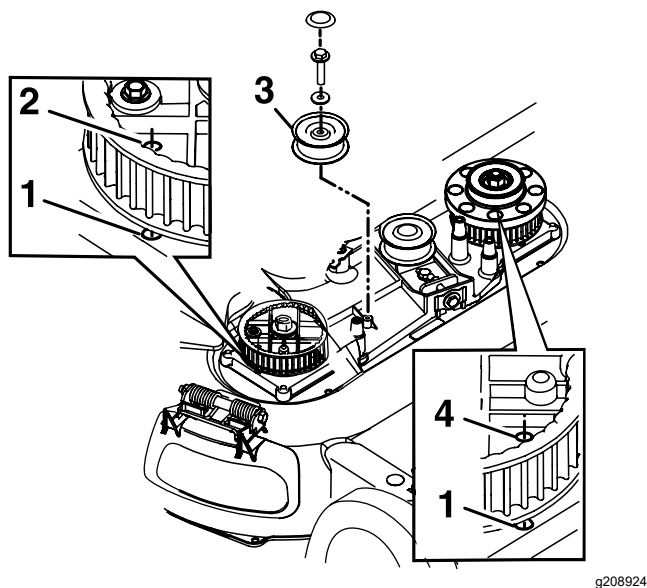

Figure 40
8. Remove the fixed idler pulley and the hardware (Figure 40).
10. Align the holes in the right and left sprockets with the holes in the housing as shown in Figure 40.